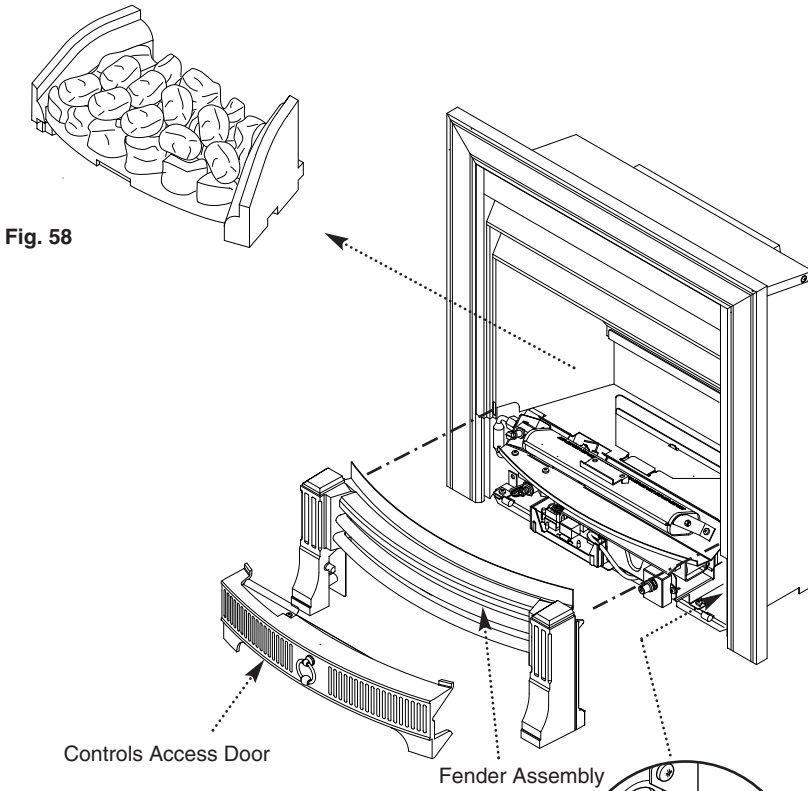

Fig. 59
1. Lift the controls access door away from the fender assembly (Fig. 59).
6. Lift the fender assembly to disengage the hooks and remove it (Fig. 59).